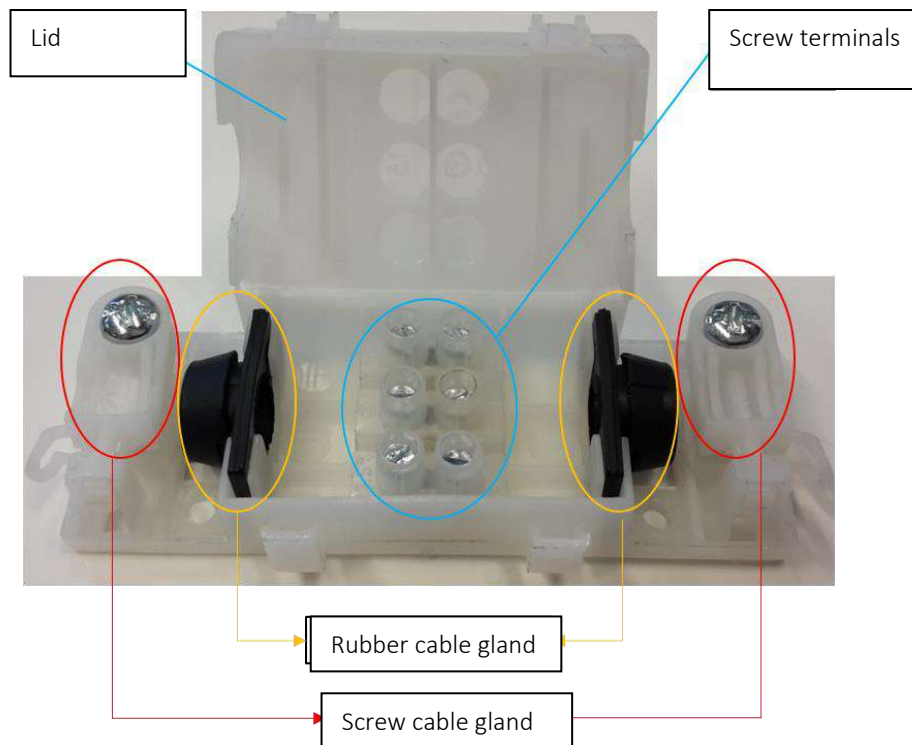

Fig. 38 Branching terminal board to connect the mains supply cables
- J. Place the terminal board inside the junction box (Figure 38) and shut it again.